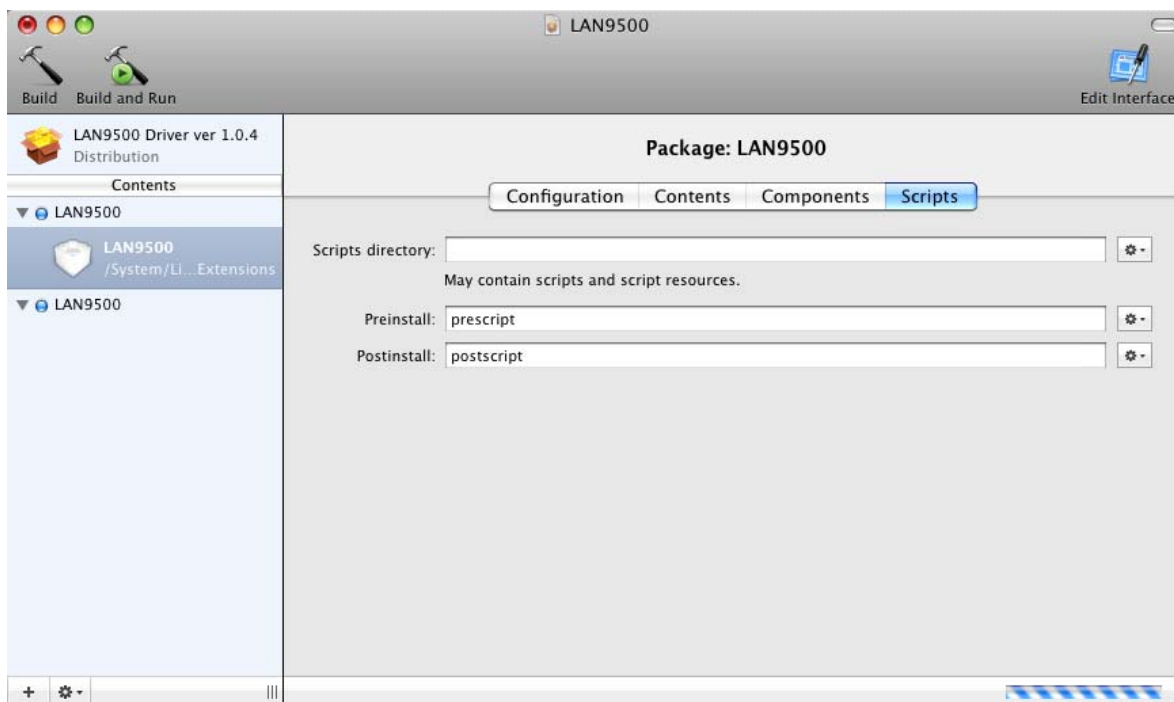

Figure 7.11 Scripts Information
9. Under the “Scripts” heading, add the prescript and postscript files created earlier to the Preinstall and Postinstall fields as shown in Figure 7.11.